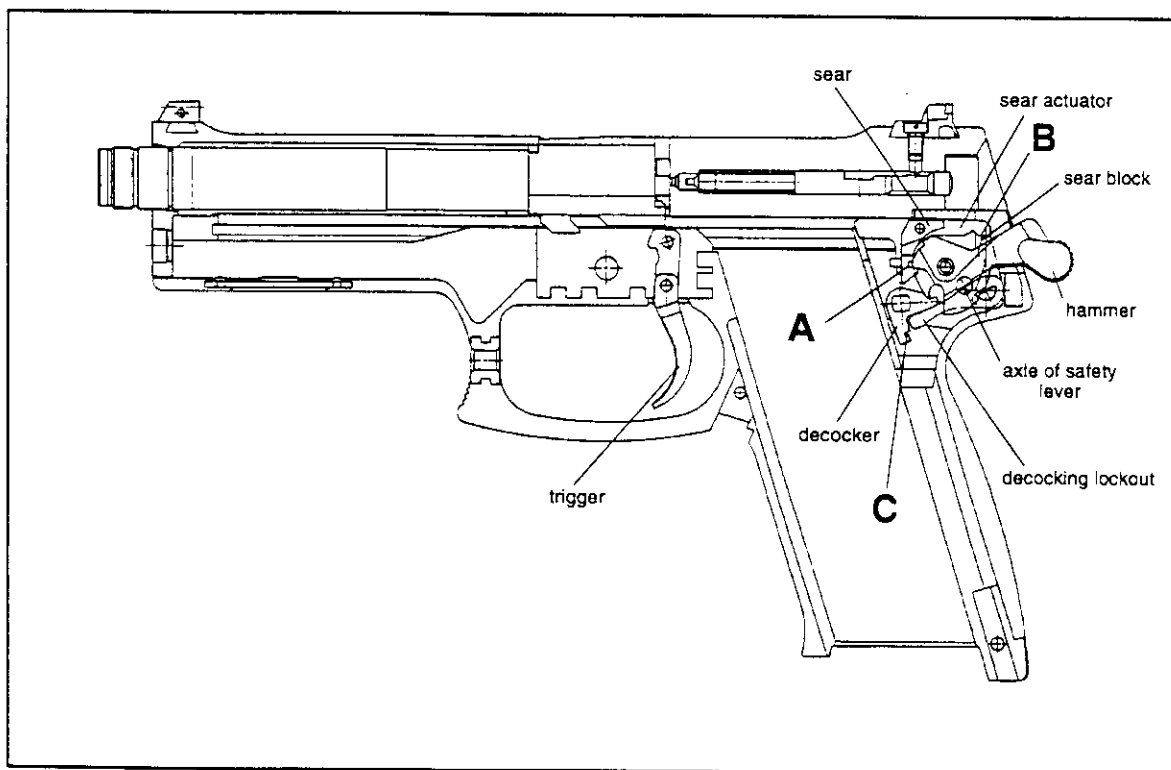

Figure 22
**1. Safety lever is engaged (up), pistol is set on "safe" (Figure 22).**